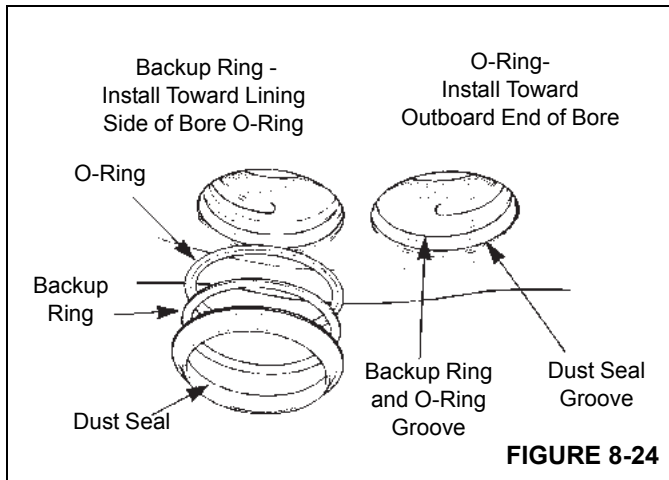

FIGURE 8-24
3. Install a new dust seal in the top groove of the bore (Figure 8-24).